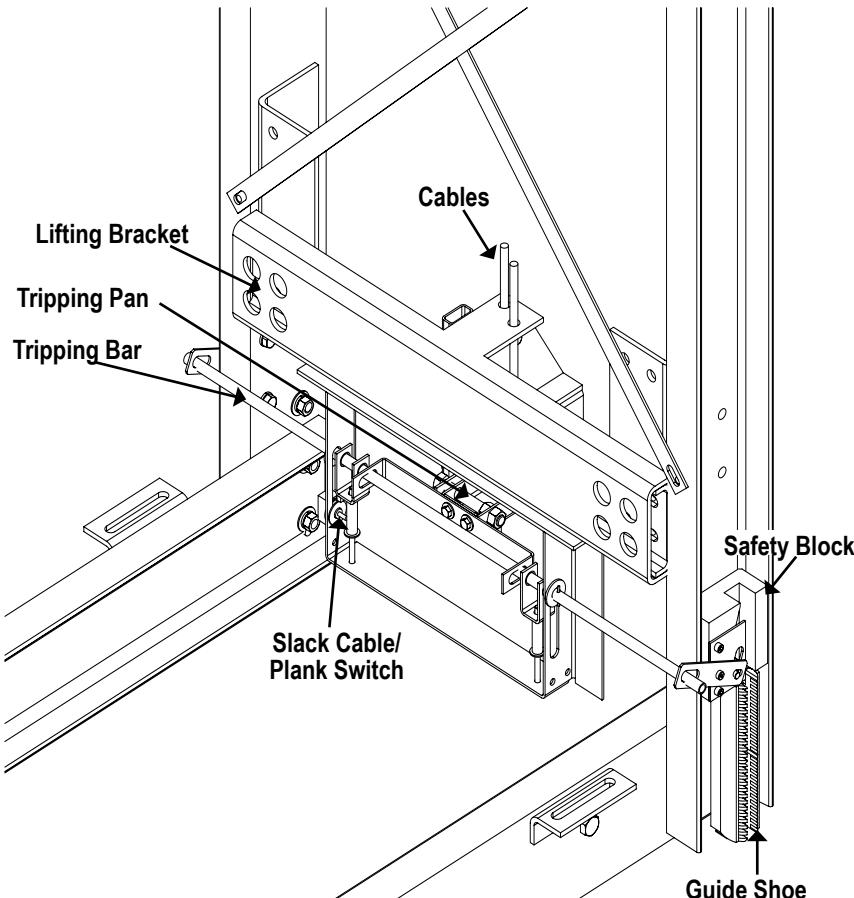

Figure 61 Safety Block and Shim
- 1) Position yourself on the platform and make sure the two (2) lower guide shoes are loose on the bolts. It should be possible to manually push the platform toward the hoistway wall and sufficiently open the gap at the back of the safety block to place a $1/16$ " (2 mm) shim on each safety block. The shims should remain in position when the pressure is released from the platform (stop pushing). Refer to Figure 61.
- 5) With the safeties set and the shims in place, tighten the bolts on the two (2) lower guide shoes. This will "set" the clearance.